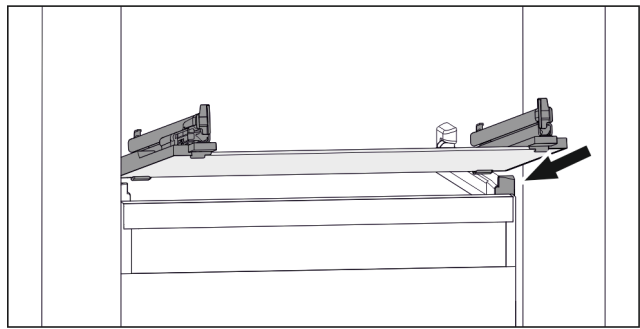

Fig. 117 Example illustration of glass shelf
- ▶ Position glass shelf at an angle behind the stoppers. (see Fig. 117)